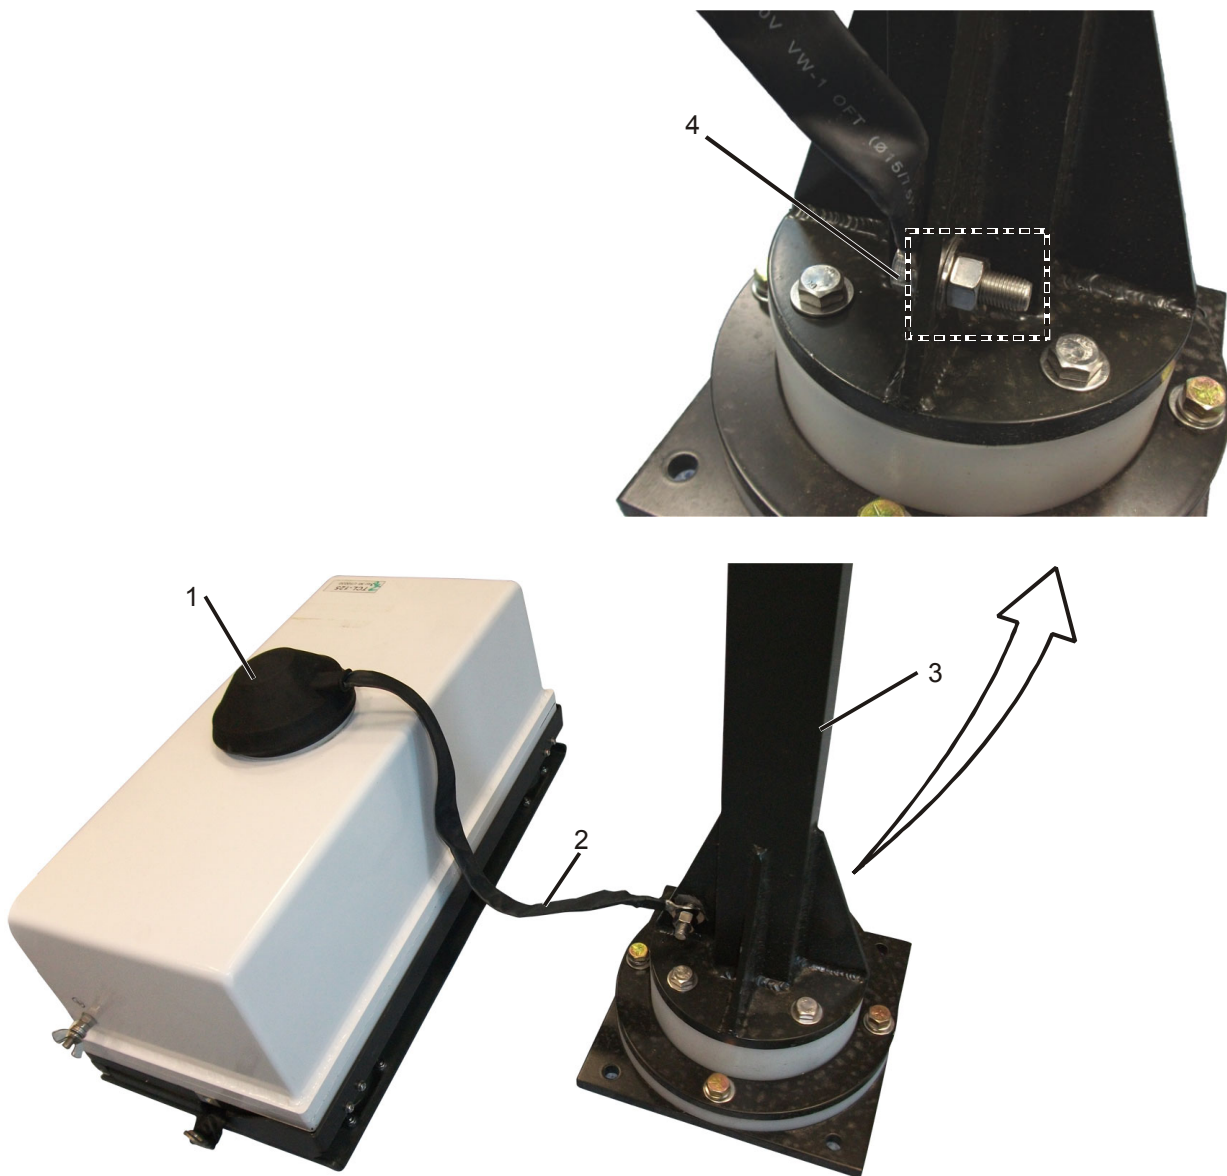

Figure 2-20. Strip to Antenna Connection
(See Figure 2-19 and Figure 2-20)
- b. Cover the antenna connector using the cover (1) (See Figure 2-20).
- c. Connect the other side of the strip (2) to the antenna (above the isolator) (3) using spring washer, flat washer and nut (4) (see Figure 2-20).